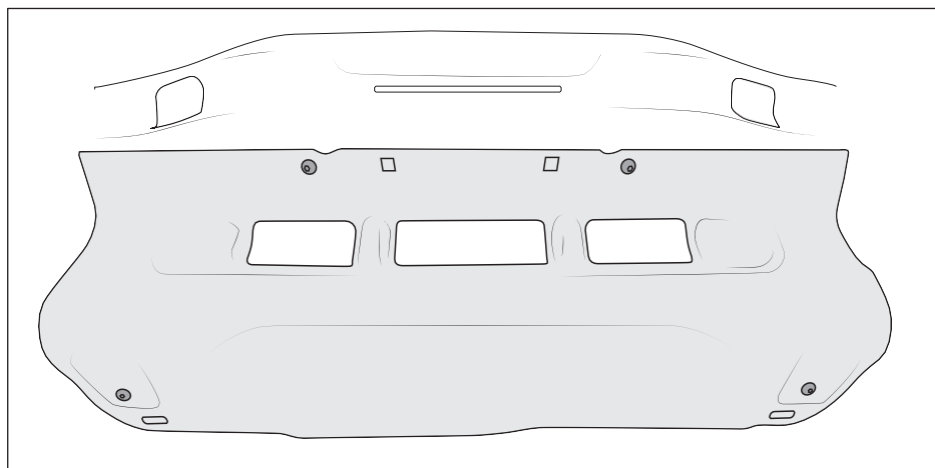

Figure 32
5. Install the skidplate using four of the provided black M8x25mm button head bolts and washers. Start by loosely installing bolts through lower portion of skidplate into U-nuts from previous step. Then rotate the skidplate up so flat front flange sits flush against bumper center and install only the two inboard front bolts at this time. The outboard mounting bolts will be installed after the tow loops in the next step. Snug all four bolts (fig. 32).